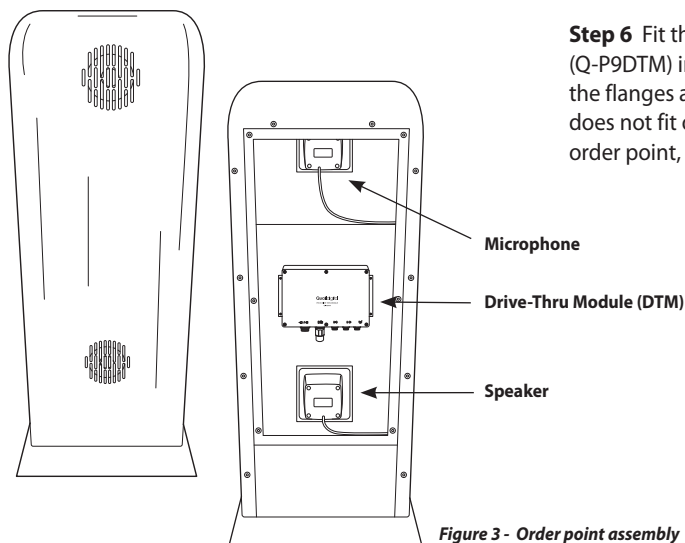

Figure 3 - Order point assembly
Step 3 Remove the microphone (Q-P9MIC) and speaker (Q-P9SPK) from their boxes. The microphone is positioned against the top grill of the order point. Use the silver pre-drilled mounting bracket to fix securely where you can. There should be no gap between the face of the microphone and the grill, and the grill should have as many holes as illustrated in Figure 3. If it doesn't, consider drilling more holes to maximise the effectiveness of microphone.